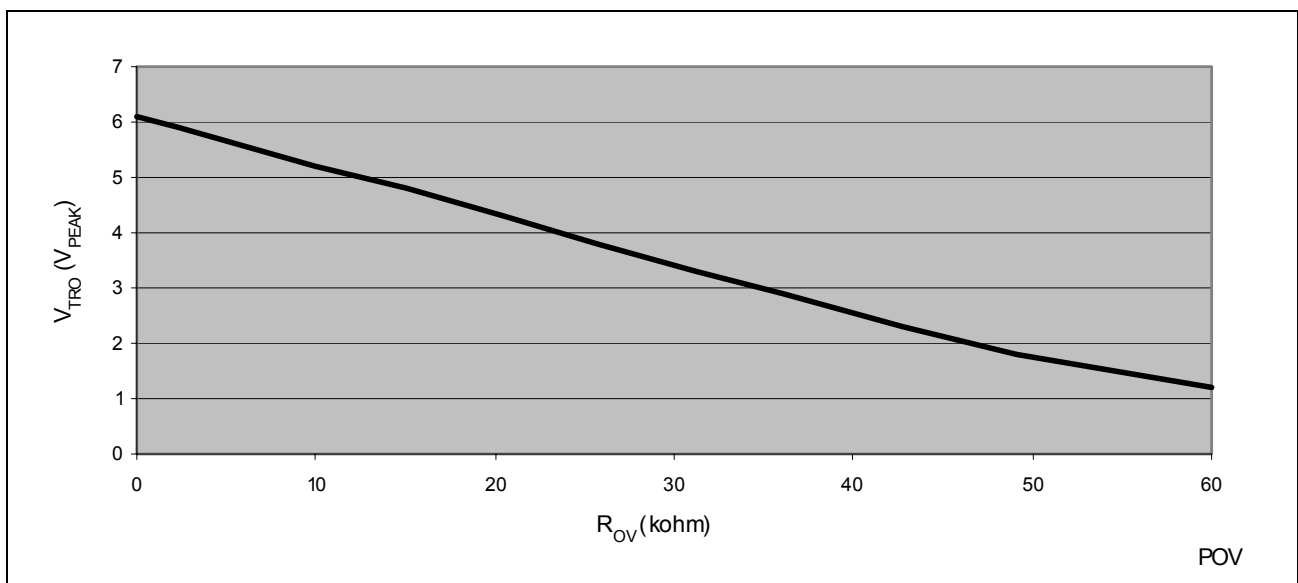

**Figure 13 Programmable Overhead Voltage (POV).  $R_L = 600 \Omega$  or Infinite**
With the POV function the overhead voltage can be increased. If the POV pin is left open the overhead voltage is internally set to  $1.1 V_{Peak}$ . The overhead voltage is equal in on-hook and off-hook. If a resistor  $R_{OV}$  is connected between the POV pin and AGND, the overhead voltage can be set to higher values, typical values can be seen in Figure 13. The  $R_{OV}$  and corresponding  $V_{TRO}$  (signal headroom) are typical values for THD < 1% and the signal frequency 1000 Hz.
2. In Figure 13 the corresponding  $R_{OV}$  for the decided  $V_{TRO}$  can be found.